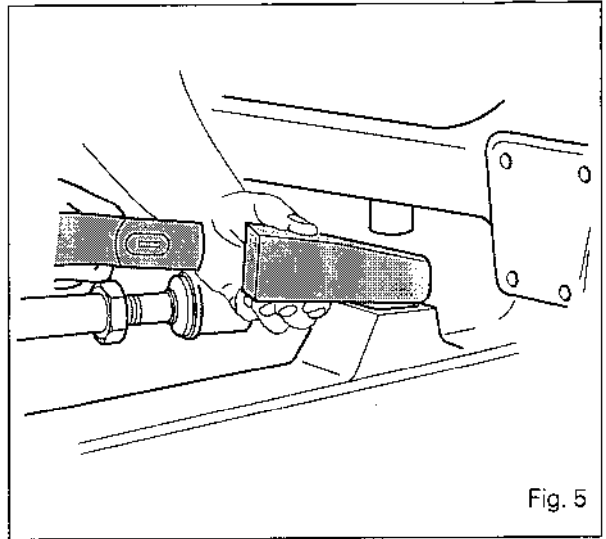

Fig. 5
33. Immobilise the tractor. Put on the handbrake. Chock the axle between the frame and the front axle. (Fig. 5, fixed version).
37. Make two guide studs "G" (Fig. 5) and fix them diametrically opposite on the front frame.